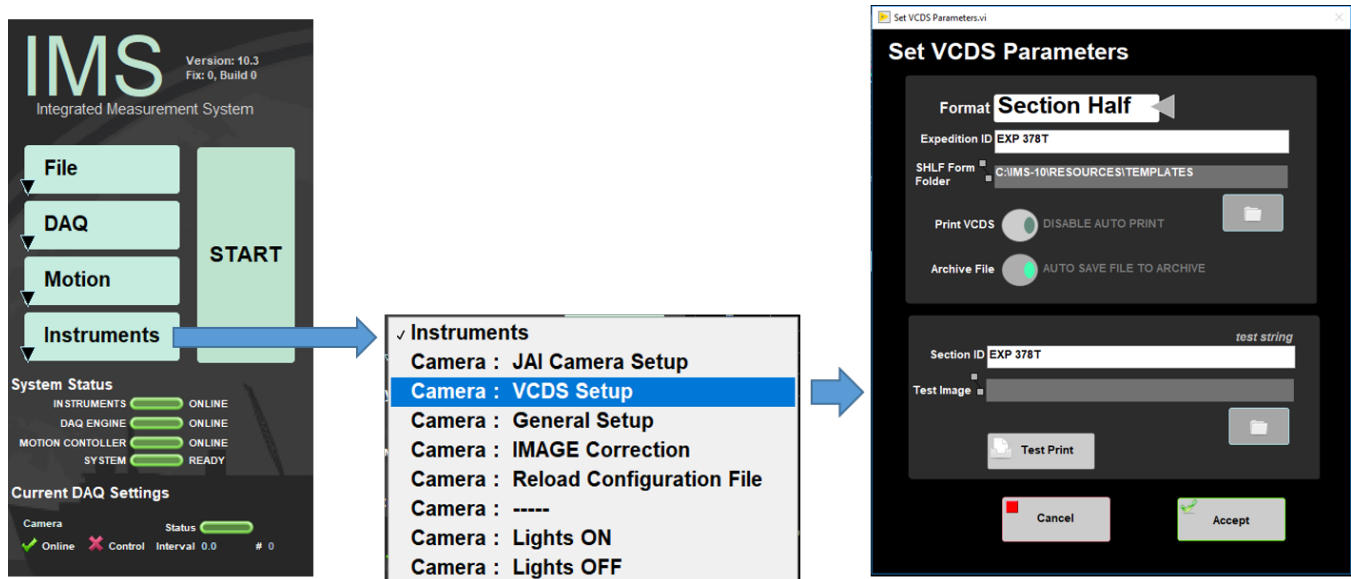

Figure 19. Select VCDS Setup
1. To access the scratch sheet configuration options, click the **Instruments** button and follow the menu down to **Camera: VCDS Setup**. The parameter screen will then display (Figure 19).